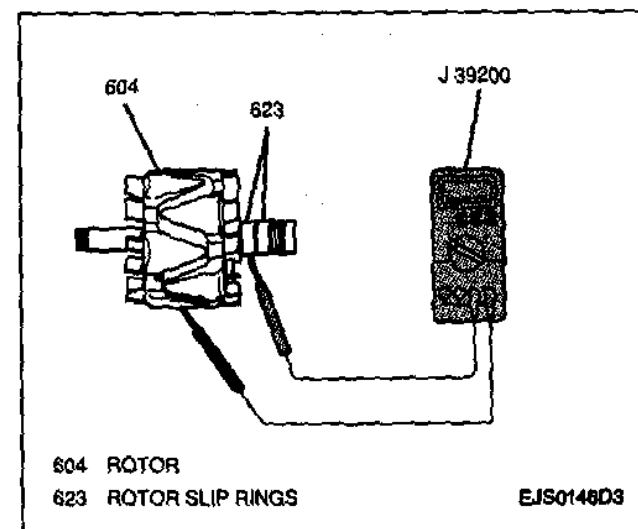

Figure 14—Measuring Rotor Slip Ring to Rotor Resistance
2. Resistance between the rotor slip ring and the rotor using the J 39200 (Figure 14). If resistance is less than 5 ohms, replace the rotor.